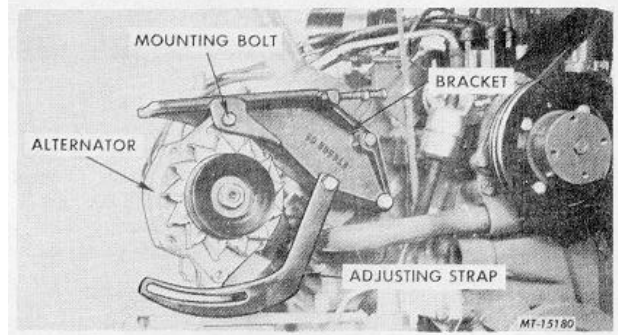

Fig. 12 Alternator Removal
- Remove the alternator mounting bolt and remove unit from mounting bracket, Fig. 12.